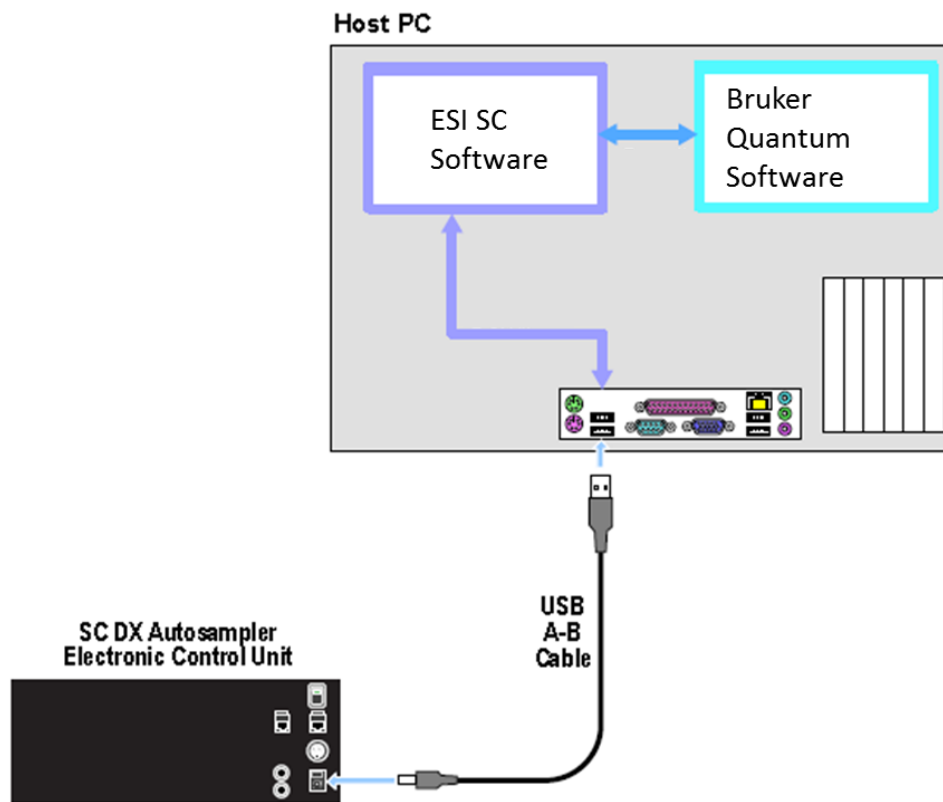

Figure 11: Connection options for Bruker Quantum and ESI SC with SC autosampler.
- 2) Connect the USB cable from the computer to the SC Autosampler. See Figure 11. Connect 24 VDC power to the SC Autosampler.